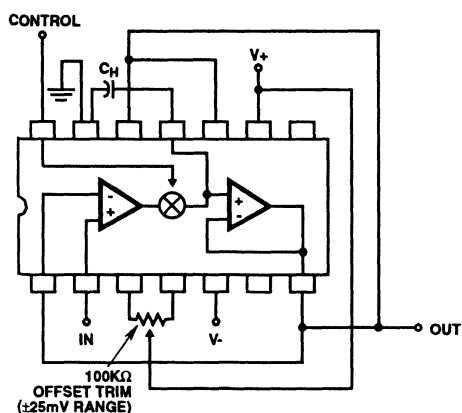

FIGURE 20. BASIC SAMPLE-AND-HOLD (TOP VIEW)
The offset voltage of the HA-2420 and HA-2425 may be adjusted using a 100kΩ trim pot, as shown in Figure 20. The recommended adjustment procedure is:
1. Figure 20 shows a typical unity gain circuit, with Offset Zeroing. All of the other normal op amp feedback configurations may be used with the HA-2420/2425. The input amplifier may be used as a gated amplifier by utilizing PIn 11 as the output. This amplifier has excellent drive capabilities along with exceptionally low switch leakage.